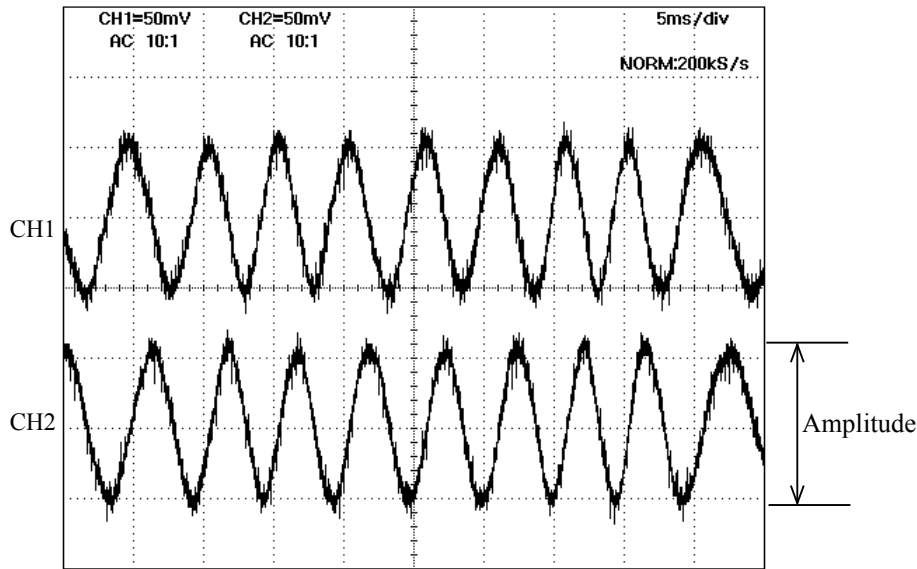

Fig. 1
- ③ In case large waveform-noise (as shown in Fig. 1) is detected, use the FILTER function.